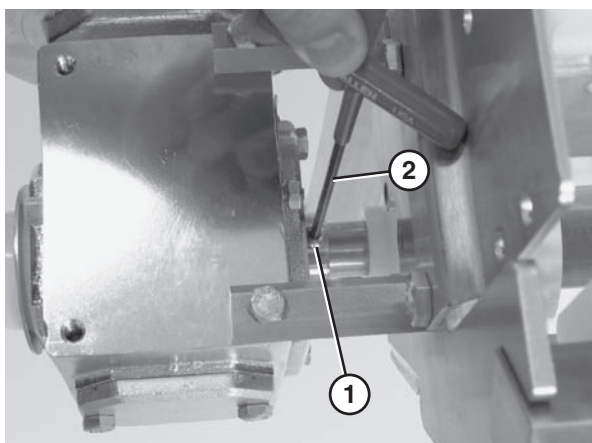

Figure 49
4. Loosen the drive spindle fasteners (**Figure 49, item 1**) located on the inside and outside of the gearmotor assembly using a hex wrench (**Figure 49, item 2**).